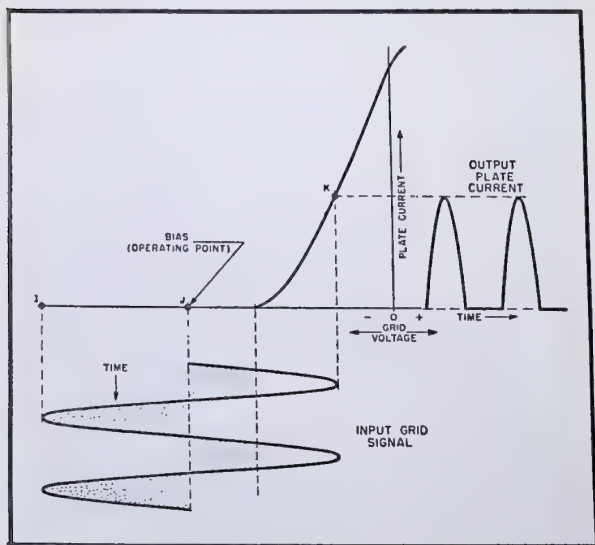

Fig. 11-9. Class C amplifier characteristics.
**Class C Operation.** A class C amplifier is one whose operating point is located well below (more negative than) the plate current cutoff point, so that plate current flows for appreciably less than one-half cycle. Class C operation is shown in Fig. 11-9. The operating point for the input grid signal shown in point J. The voltage for this point is about 1.5 times the cutoff value. The operating point for class C operation usually is made from 1.5 to 4 times cutoff. The positive peak of the input grid signal extends to point K on the dynamic characteristic, and the negative peak extends to point I. The shaded areas indicate the portions of the input signal that are cut off. The output waveform represents a small part of the positive peaks of input grid signal.